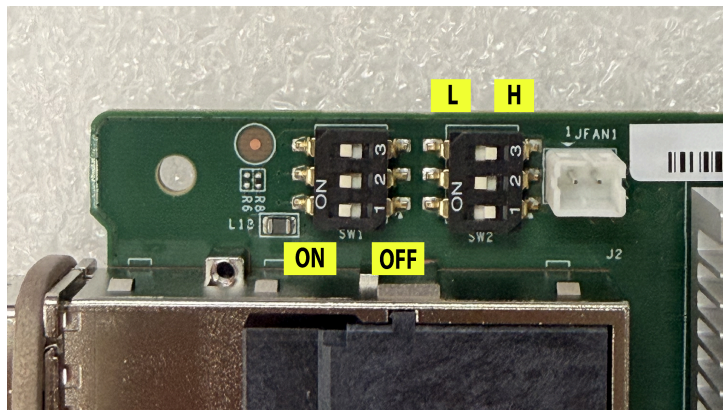

Figure 110. Host Adapter (D01) DIP Switch Settings for Firmware Update at Falcon side
- D01 DIP switch settings must be configured as follows (see Figure 110):